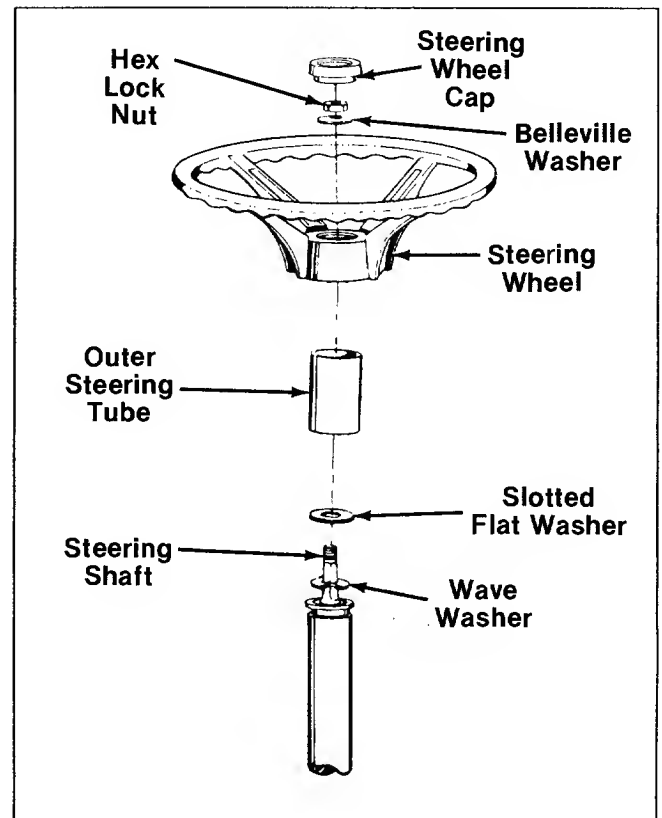

FIGURE 2.
1. Place the wave washer over the steering shaft. See figure 2.